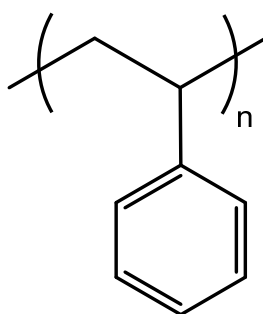

Figure 2: Chemical structure of polystyrene
- (c). Calculate the concentration of benzoyl peroxide required to prepare polystyrene with a number-average molecular weight of 750,000 gmol^{-1} . Given the concentration of styrene is $8.38 \times 10^{-6} \text{ molL}^{-1}$. Assume that the initiator is 100% efficient, the termination is by disproportionation, and chain transfer to initiator and monomer are negligible. The chemical structure of polystyrene is shown in Figure 2. Relevant rate coefficients are: